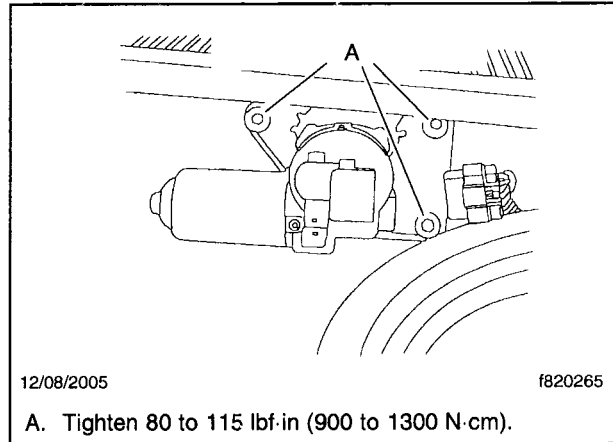

Fig. 7, Tightening Windshield-Wiper Motor Bolts
11. Tighten the bolts 80 to 115 lbf-in (900 to 1300 N-cm). See **Fig. 7**.